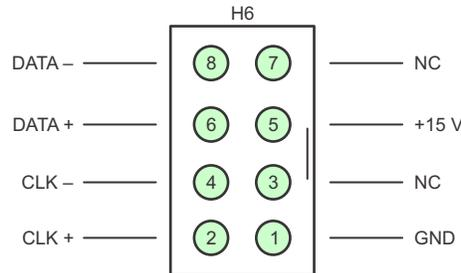

Fig 11. Abs-Enc-1 (J7) Pinout on TIDM-1010 Board
2. Insert the header of the adaptor created in the previous step to connect to Abs-Enc-1 (J7). The female end of the cable connects to the encoder. Fig 11 shows the pinout of J7.